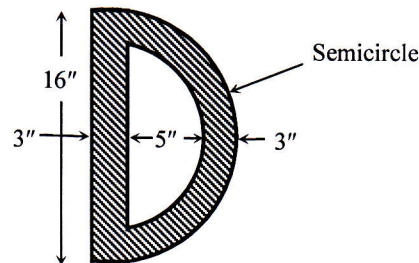

Fig. 7(b)
9. Calculate the Yield Moment and Plastic Moment capacity of the sections shown in **Fig.7(a)** and **Fig.7(b)** if they are made of elastic-fully plastic material [Given: $\sigma_y = \sigma_{yp} = 60 \text{ ksi}$].